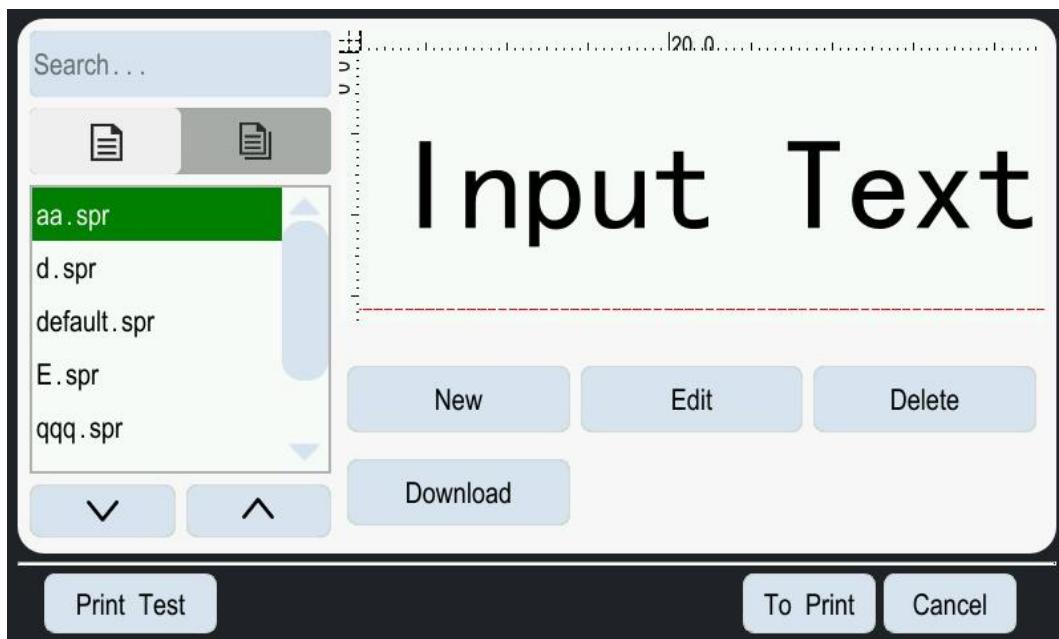

Figure 5-14 Load file interface
1. Click the button on  the main interface, and the system enters the file loading interface as shown in Figure 5-14.